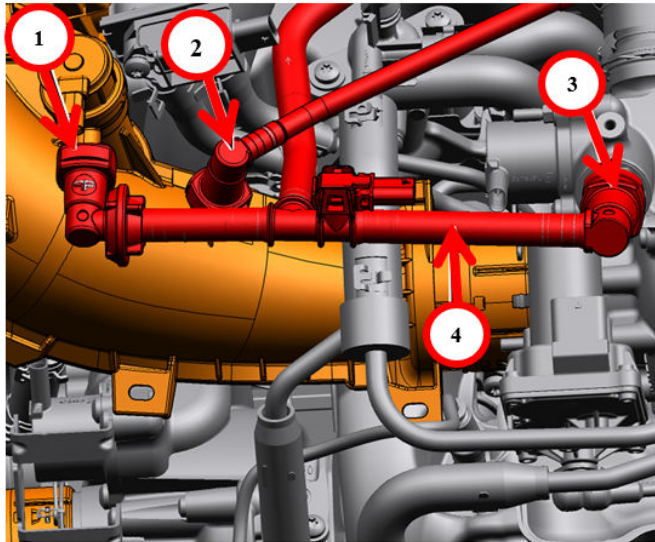

Fig. 2
6. Disconnect the purge tube quick connect connector from clean air hose Fig. 2.
7. Disconnect the MUA solenoid valve tube quick connect connector Fig. 2.
8. Disconnect the MUA tube quick connect connector from MUA valve and position aside Fig. 2.